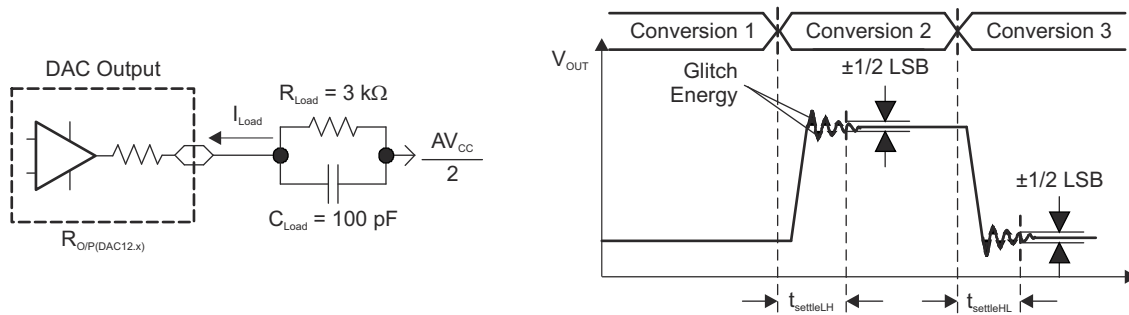
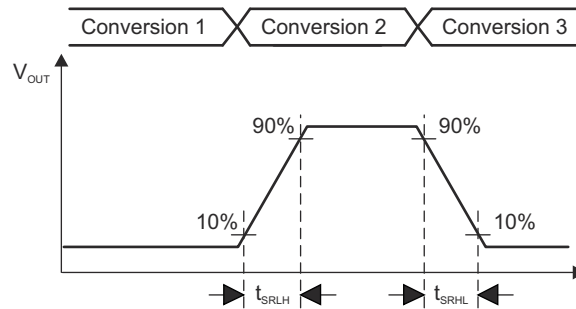

Figure 8-19. Settling Time and Glitch Energy Testing
Figure 8-20. Slew Rate Testing
V_{REF} = V_{CC}, DAC12IR = 1 (see Figure 8-19 and Figure 8-20), over recommended ranges of supply voltage and operating free-air temperature (unless otherwise noted)
- (1) R_{Load} and C_{Load} connected to AV_{SS} (not AV_{CC}/2) in Figure 8-19.
- (2) Slew rate applies to output voltage steps ≥200 mV.